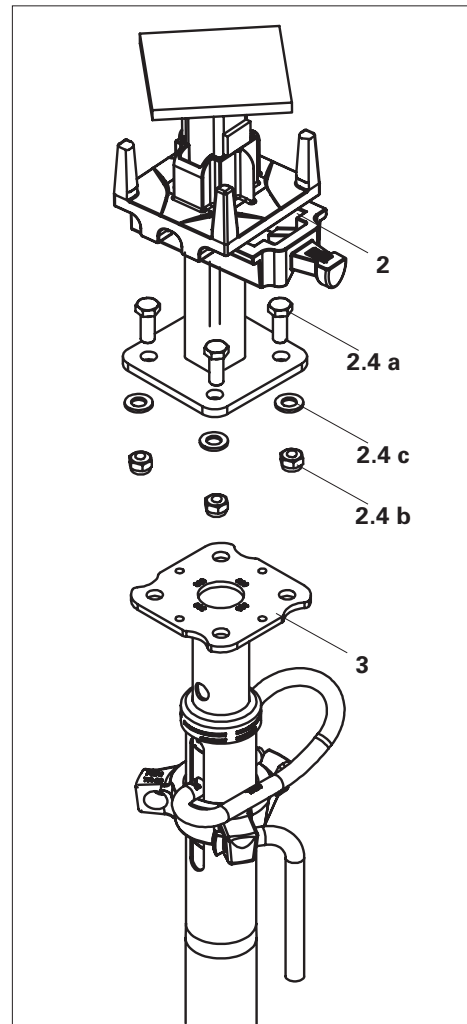

Fig. A3.06
3. Use M12 bolt (2.4 a), nut (2.4 b) and washer (2.4 c) to attach the prop (3) to the drophead (2). (Fig. A3.06)